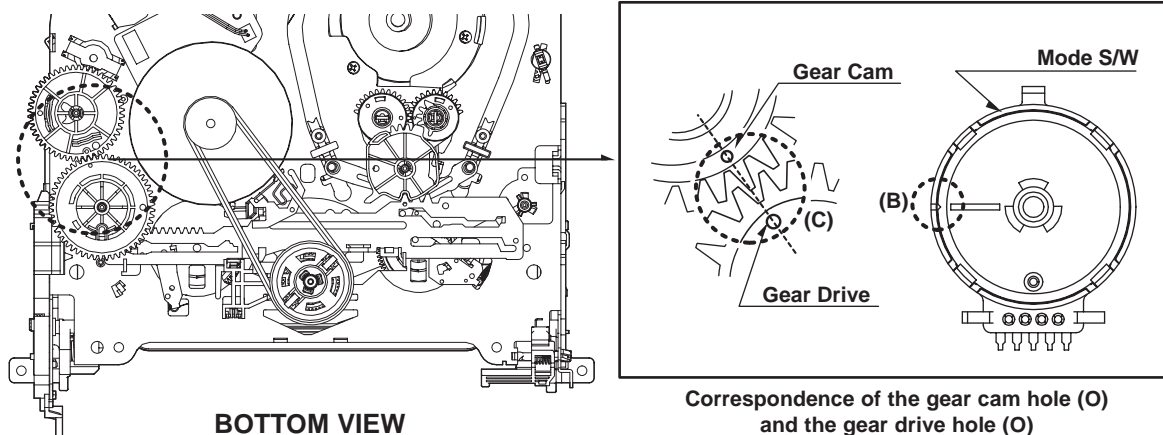
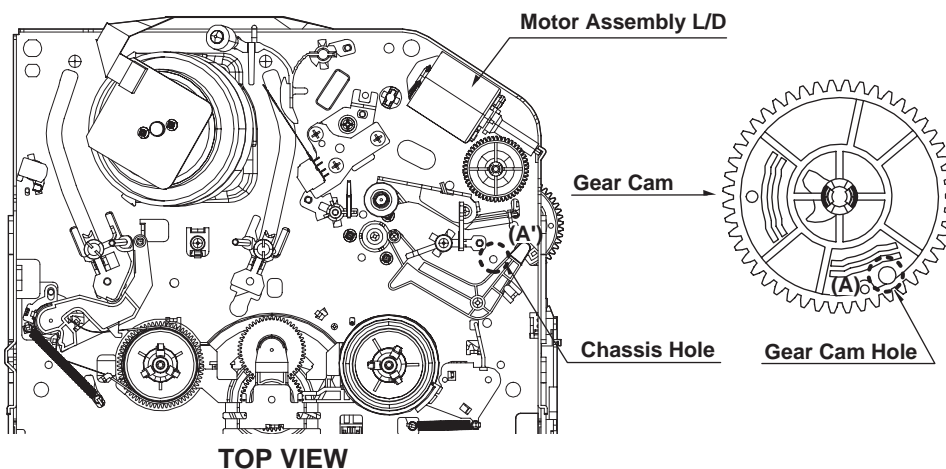

Fig. C-1
Fig. C-2
<ol style="list-style-type: none"> <li>1) Turn the VCR on and take the tape out by pressing the eject button.</li> <li>2) Separate both top cover and plate top, and check both the hole (A) of gear cam and the hole (A') of chassis correspond (Fig. C-2).</li> <li>3) If it is done as in the paragraph 2): Turn the gear cam as in No.2) after dismantling the motor assembly L/D.</li> <li>4) Undo the screw fixing the deck and the main frame, and separate the deck assembly. Check both the hole (A) of gear cam and the hole (A') of chassis correspond (Fig. C-1).</li> <li>5) Check the mode S/W on the main P.C. board locates at a proper position as in (B) of the Fig. (C-1).</li> <li>6) Connect the deck to the main P.C. board and perform all types of test.</li> </ol>